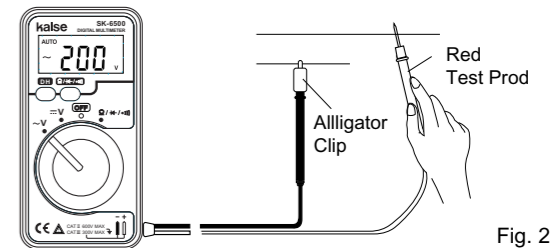

Fig. 2
6. Read the voltage on LCD. Refer to the figure 2.